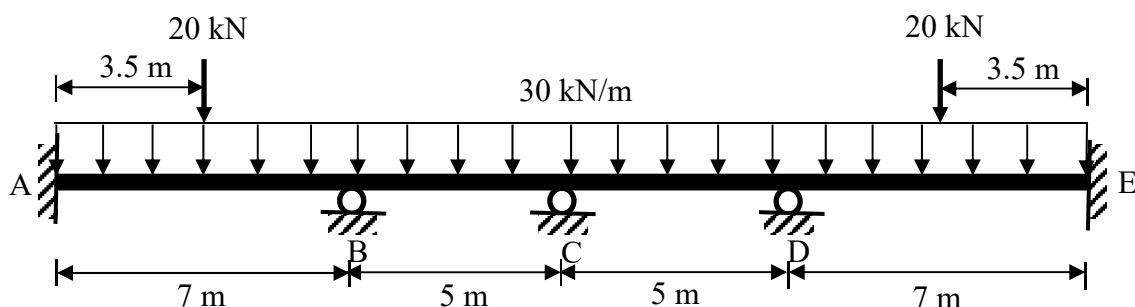

Figure 5/Rajah 5
4. **Figure 5** shows a beam carrying a uniformly distributed load of 30 kN/m on span ABCDE and concentrated loads of 20 kN at 3.5 m from supports A and E. Supports A and E are fixed, whereas supports B, C and D are roller. Assume EI is constant for the beam.